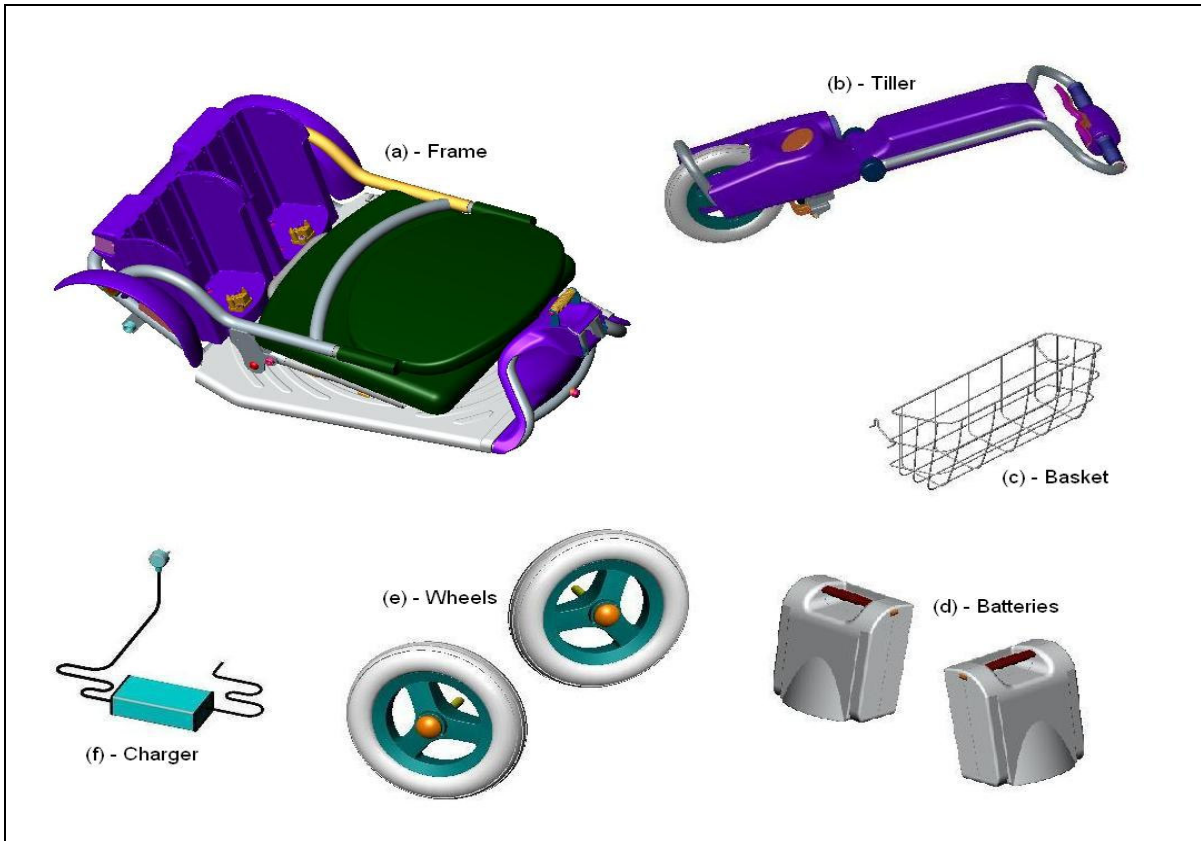

Fig 1
3. You will have the contents as shown in Fig 1.
- g) Two arm rests (not shown in Fig 1)